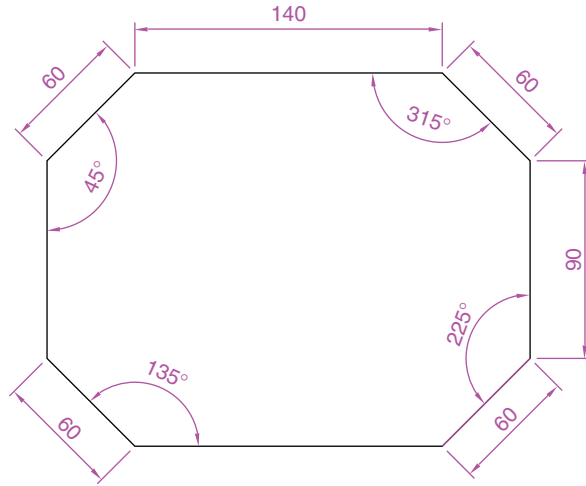

Fig. 2.30 Exercise 3
- Using the **Line** tool, construct the outline in Fig. 2.30.